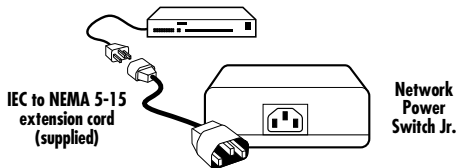

Figure 3-4. Use the included power cord (or one for your country) to connect to the power output.
1. Connect the device to be powered ON and OFF to the IEC receptacle marked “Switched Outlet,” which is located on the front of the switch. See Figure 3-4. A short IEC 320 to North American (NEMA 5-15) power cord is included for connecting the switch outlet to the device to be power controlled.